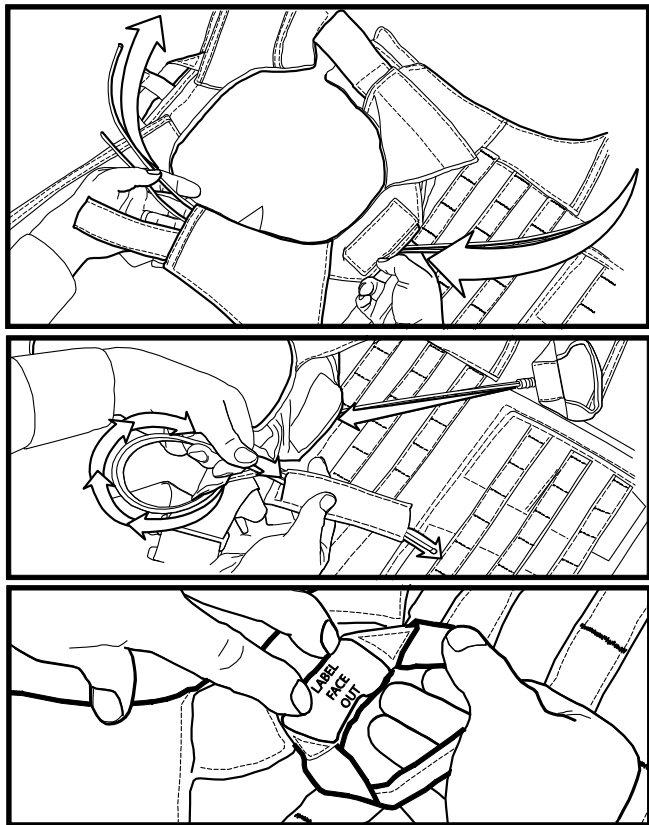

Figure 20. Installing Cable Release on Front Carrier.
- b. Insert the cable through the cable release handle pocket and route through the right shoulder (Figure 20).
- c. (IOTV ONLY) Continue to route cable through the release cable webbing channel on the right shoulder of the front carrier (Figure 20).